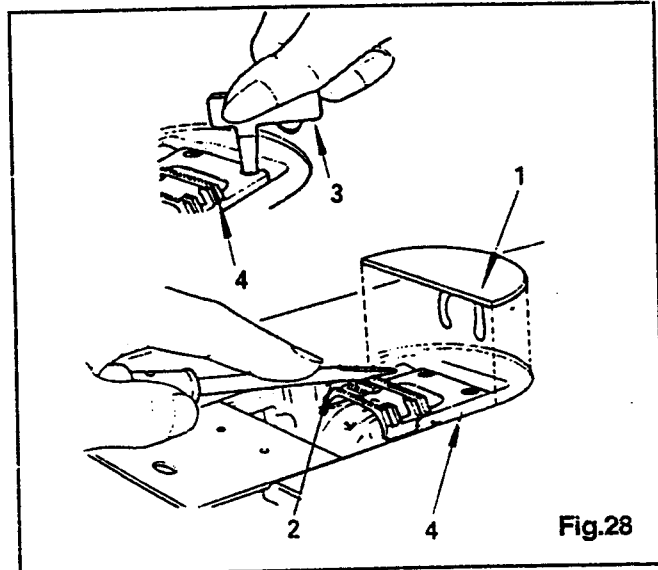

Fig.28
1. Open bed slide, then remove throat plate. (Use screwdriver (3), Fig.28, furnished with machine for removal and replacement of throat plate and feed dog.)
2. Using a screwdriver (2), remove bed plate (1) and remove feed dog (4). (See Fig.28.)